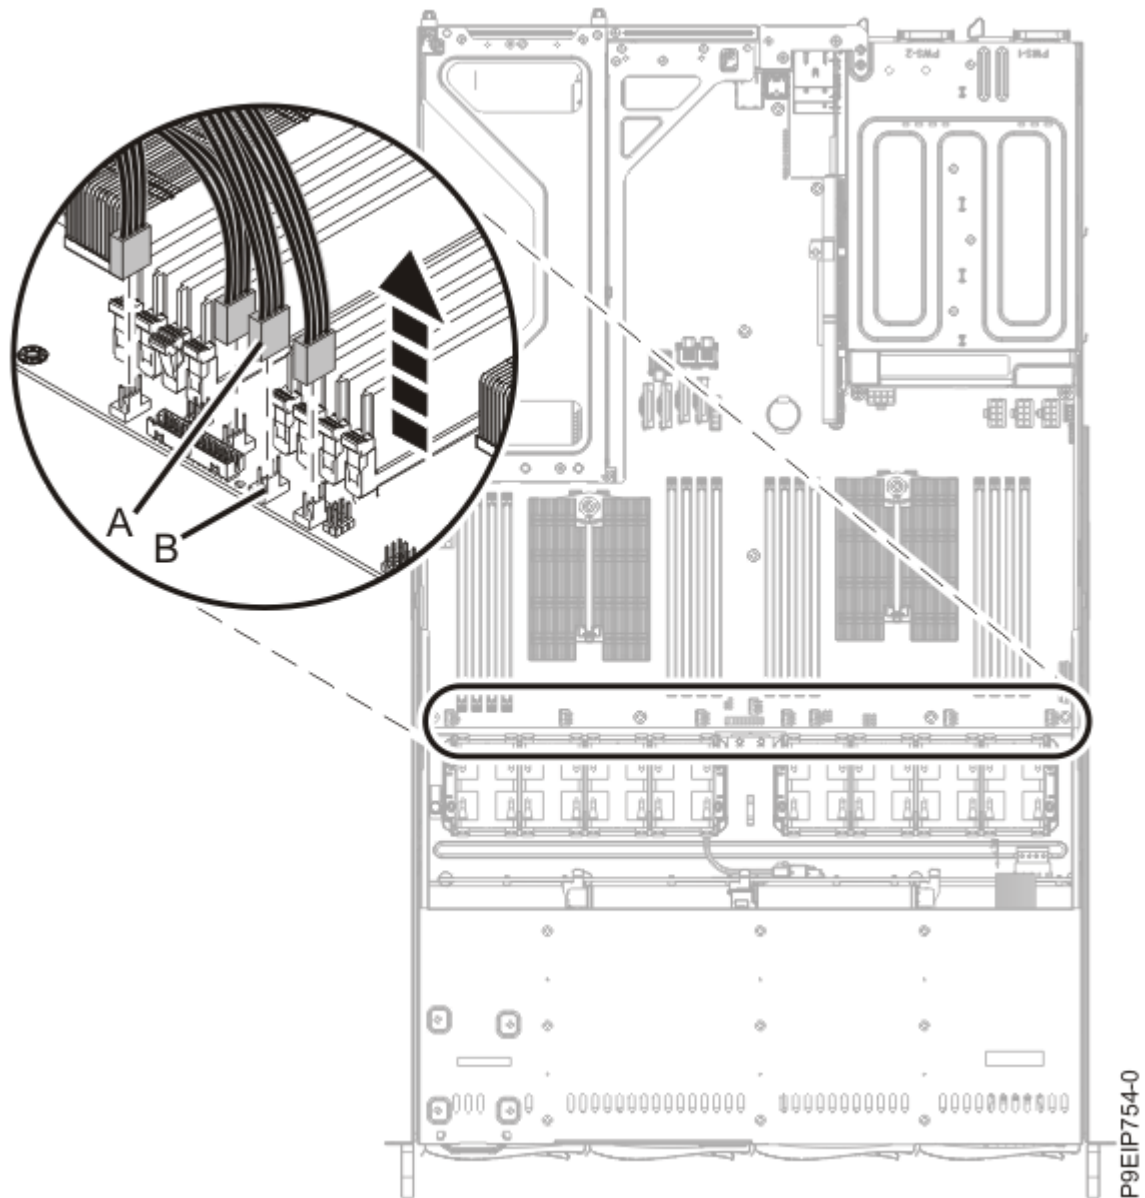

Figure 15. Disconnecting the fan cable
4. To disconnect a fan cable, release the connector clip **(B)** and carefully pull up the connector **(A)** from the system backplane, as shown in Figure 15 on page 22.